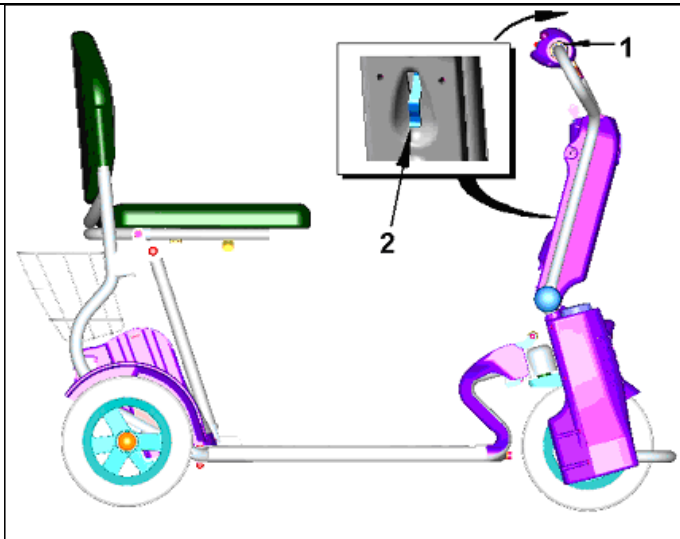

figure 9
To tilt the handlebar (1) forward pull the lever (2) up as shown in **figure 9** , then push the handlebar (1) forward while keep pulling the lever (2) up. When you like the handlebar (1) to be fixed and secured again, just leave the lever (2) at the desired position and it will snap and be secured at nearest groove .